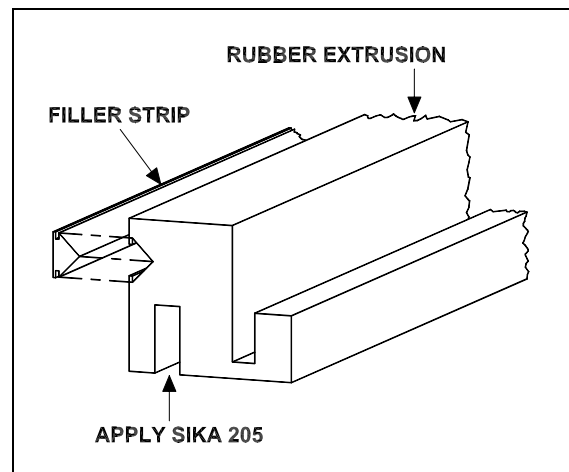

FIGURE 35: WINDSHIELD INSTALLATION
1. Clean the rubber extrusion channel (Fig. 35) with wiping towels soaked with isopropyl alcohol.